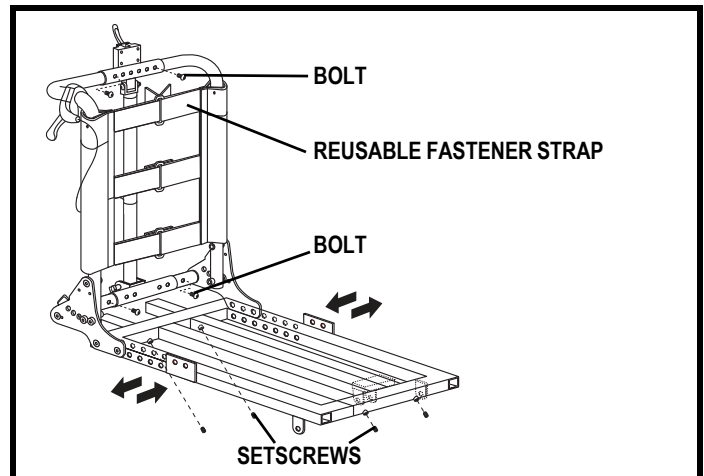

Figure 14. Seat Width Adjustment
2. Loosen the four setscrews on the seat base. See **figure 14**.